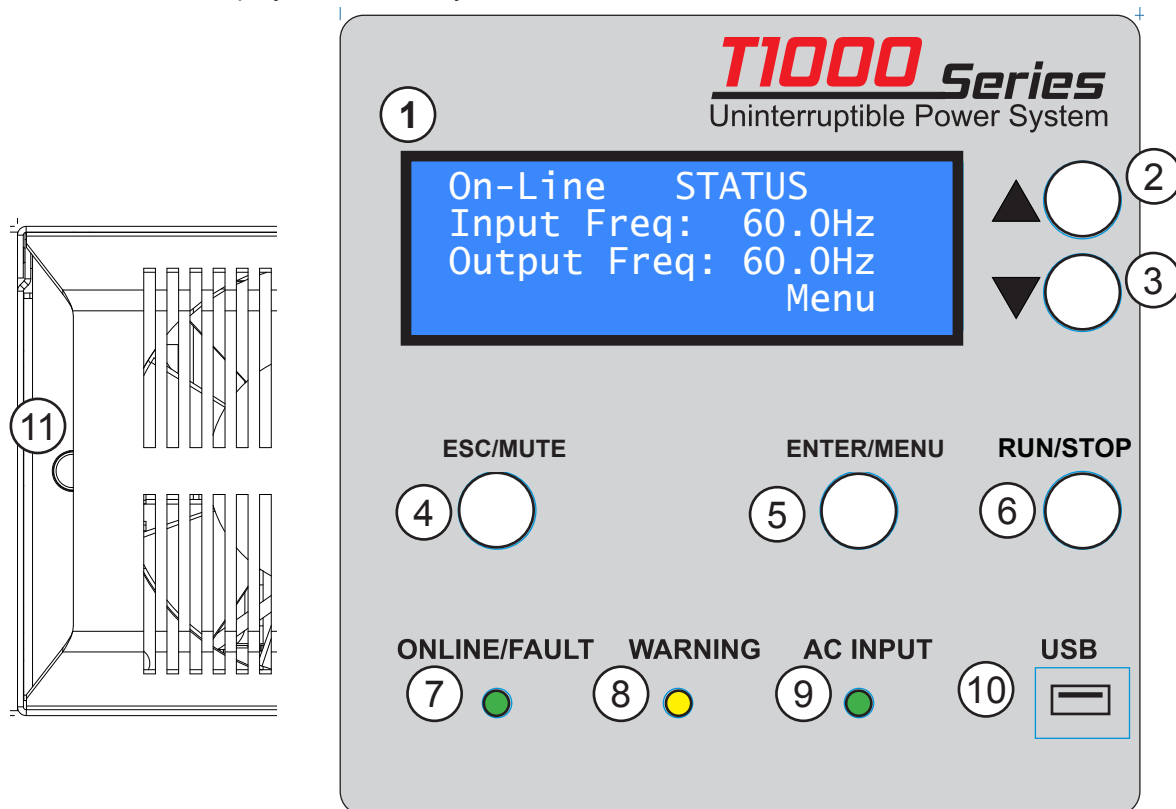

FIGURE 9-1: FRONT PANEL LAYOUT
Fig. 9-1 shows the LCD display and control layout for the T1000 UPS.
- The right-most column may display an up (↑) and/or down (↓) arrow, indicating more choices in the indicated direction. Selection is made by moving the pointer (→) along the left side of the display, up and down using the up/down push buttons (Fig 9-1 (2) (▲) & (3) (▼).
1. When the UPS initially starts, the STATUS screen will be displayed. Use the down push button (Fig. 9-1(3)) to move the pointer down until the pointer is next to MENU. Press the Select push button (Fig. 9-1(5)).
- The right-most column may display an **up** (↑) and/or **down** (↓) **arrow**, indicating more choices in the indicated direction. Selection is made by moving the **pointer** (>) along the left side of the display, up and down using the up/down push buttons (Fig 9-1 (2 & 3)).
2. Press the down (▼) push button (Fig. 9-1(2)). The selection pointer moves one line down, to **Monitor**. (Fig. 9-2b)
1. Open **MENU** and select sub-menu **Settings**, (Fig. 9-3a) by pressing the **ENTER/MENU** push button (Fig. 9-1 (5)).
7. Press the **ESC/MUTE** push button (Fig. 9-1(4)) to return to the parameter screen (Fig. 9-3f).